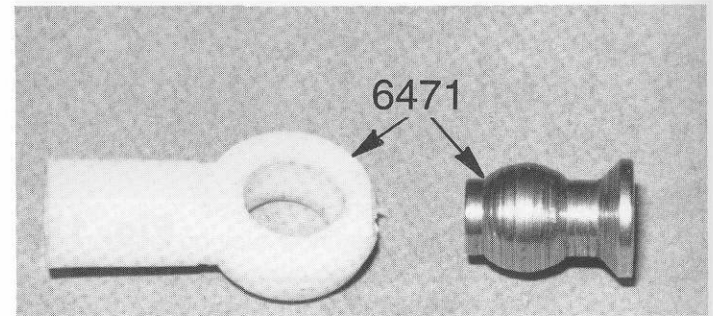

Fig. 127
(6) From bags #6-9 and #6-10 and remove the #6471 nylon shock rod ends and .230 shock steel pivot ball ends, two from each bag. See fig. 127. From the shock assembly parts bag (inside the main shock bag) remove the remaining two #5407 red O-rings. (7) Now take one of the #6471 plastic shock rod ends and push it onto the steel shock pivot ball. The easiest way to do this is to place the metal ball end on a table with the flat side against the table. Set the plastic rod end over the ball and push it into place with your 1/4" nut driver. You can also use pliers to squeeze the parts together.
(8) Slide one of the red O-rings onto each rear shaft then (9) thread the nylon shock rod end onto the shock shaft. To keep the shock shaft from turning, you will have to hold the shaft with your needle nose pliers. **WARNING! Using only the smooth part of your needle nose pliers, grab only the shaft, not the threads, and as close to the threads as possible.** This is very important, for we do not want to scratch the shaft where it will ride in the O-rings, for this could damage them, causing the shock to leak. Assemble the other three shocks.